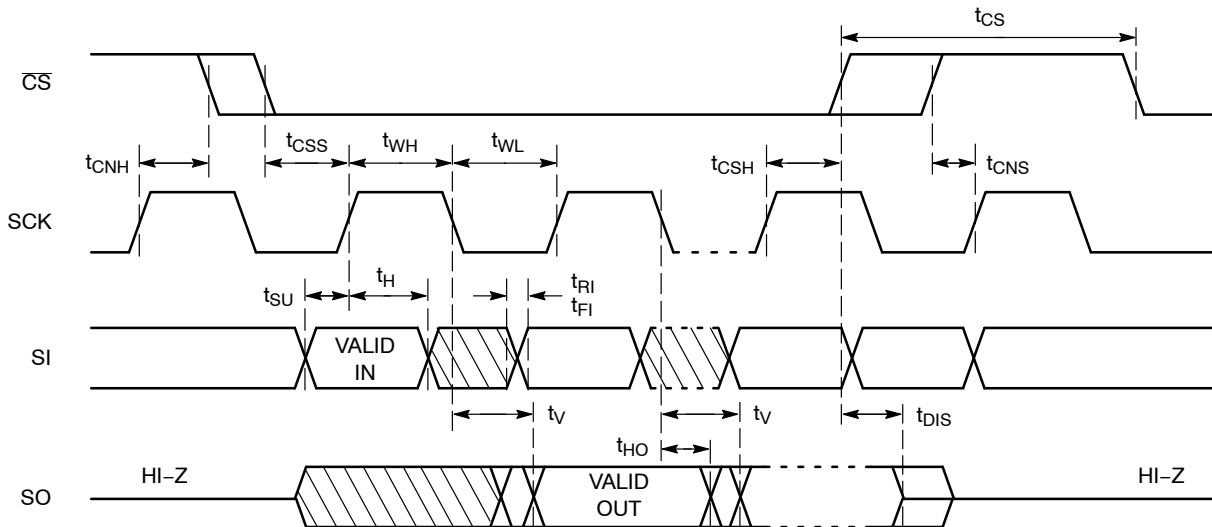

Figure 2. Synchronous Data Timing
9. **All Chip Select (CS) timing parameters are defined relative to the positive clock edge (Figure 2). t_{CSH} timing specification is valid for die revision C and higher. The die revision C is identified by letter "C" or a dedicated marking code on top of the package. For previous product revision (Rev. B) the t_{CSH} is defined relative to the negative clock edge.**
After a high to low transition on the \overline{CS} input pin, the CAT25256 will accept any one of the six instruction op-codes listed in Table 10 and will ignore all other possible 8-bit combinations. The communication protocol follows the timing from Figure 2.